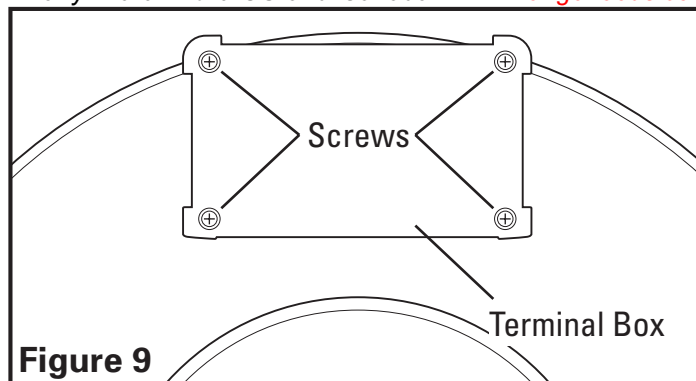

Figure 9
1. Remove the screws securing the terminal box cover plate located on the side of the motor (Figure 9).